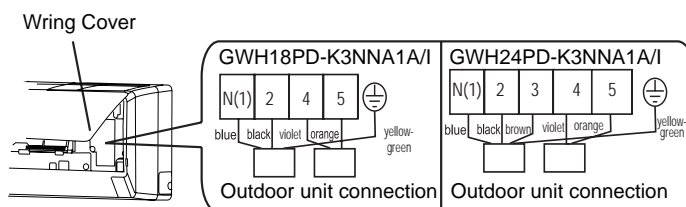

Fig.2
2. Remove the wiring cover. Connect and fix power connection cord and signal control wire to the terminal board. As shown in Fig.2.